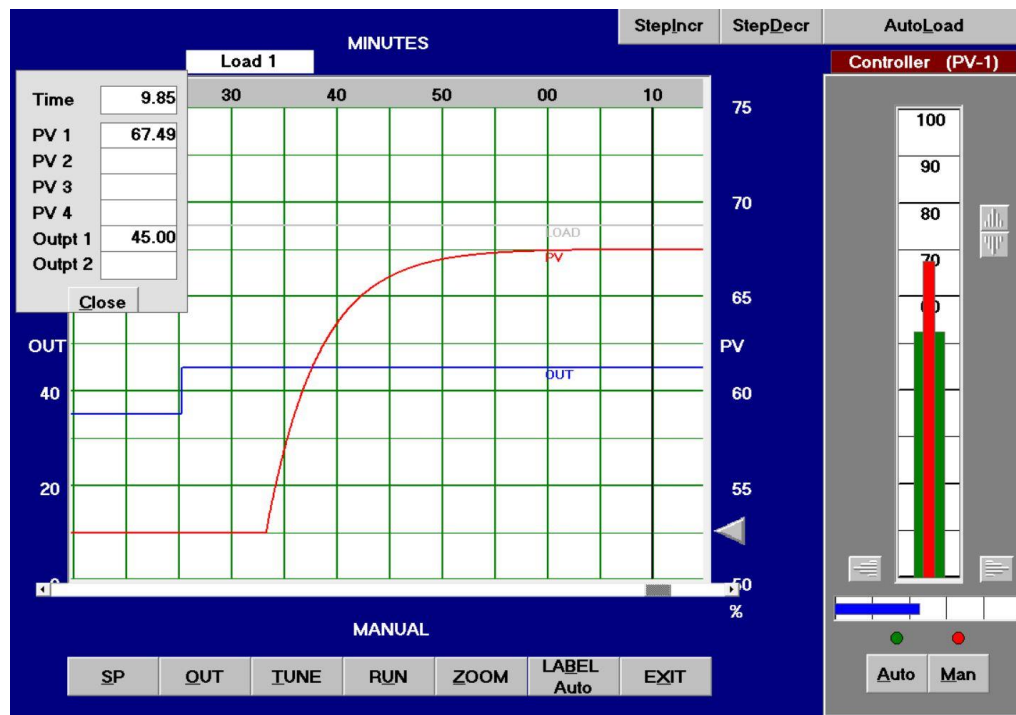
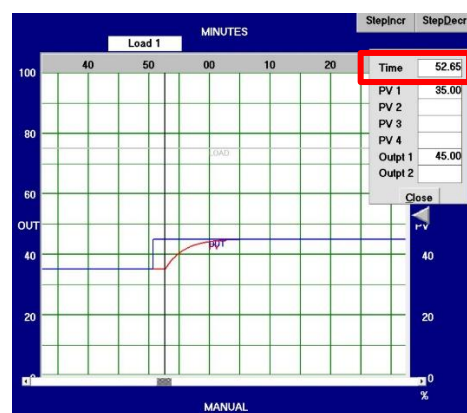

Figure 2 : After changing controller output
Figure 10: Start time of PV change
- 67.49 % (as shown in fig.2)
- PV change = new value (after changing controller out in fig.2) - old value (before changing controller out in fig.1) = 67.49 - 52.5 = 14.99.
- MV Change Controller Output = 45 (in fig.2) - 35 (in fig.1) = 10.
- Dead Time = 52.65 (time in fig.10) - 50.65 (time in fig.2) = 2 minute as expected in new process parameters in fig.7.